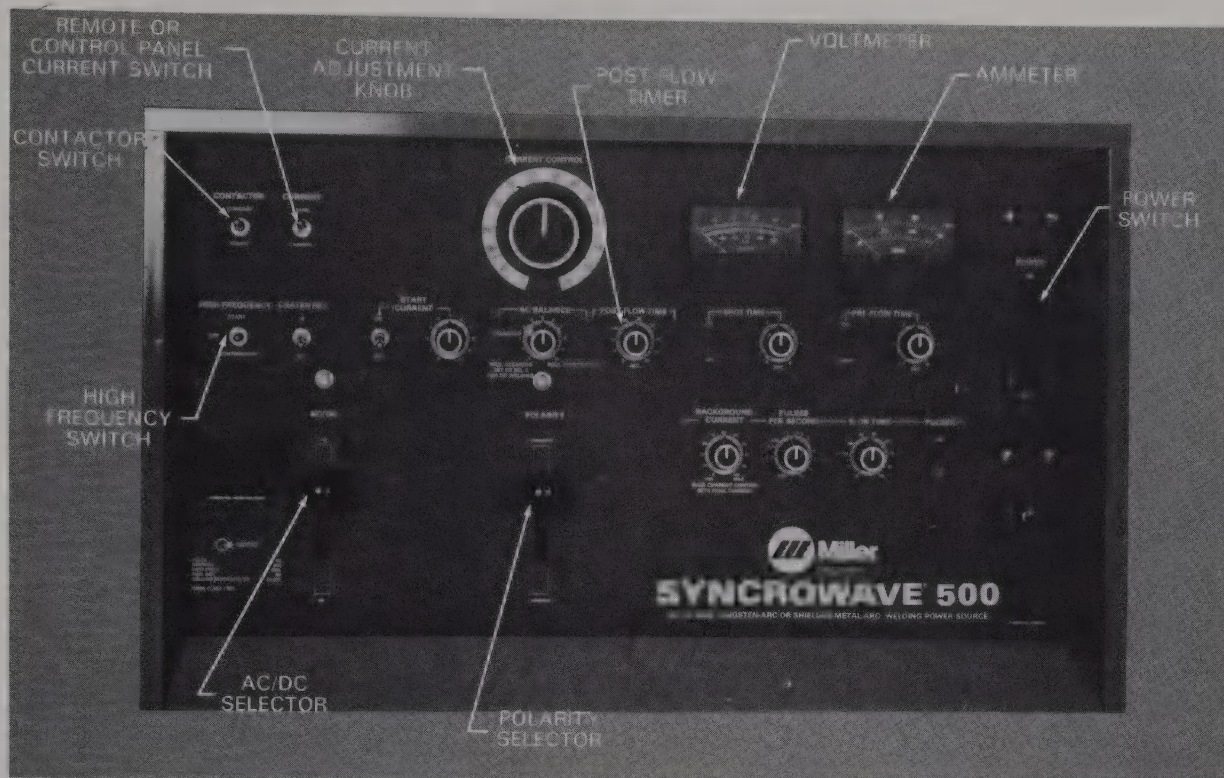

Fig. 21-3. The control panel on one type of GTAW machine. (Miller Electric Mfg. Co.)
Most of the controls that a welder uses are on the front panel of a welding machine. See Fig. 21-3. Electrical, water, and shielding gas connections are usually on the bottom front or the back of a machine. A GTAW machine can be an alternating current (AC) machine, a direct current (DC) machine, or a machine that can provide either AC or DC current.
for a short time after the weld current stops. This gas flow is called *post flow*. The length of time that the gas flows is set on the welding machine. Refer to Fig. 21-3 for position of the post flow timer.